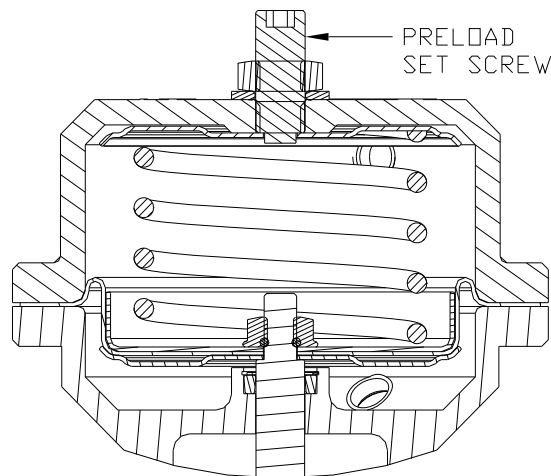

Figure 3:
- To increase spring preload (boost pressure) by a small amount, loosen the set screw nut, and then “dial in” the preload set screw by 2 or 3 rotations (refer to Figure 3). **CAUTION:** When increasing boost, adjust in small enough increments to avoid excessive boost and possible detonation (for reference, 2 or 3 inward rotations of the preload set screw = approximately 1psi increase in boost).
- To decrease spring preload (boost pressure) by a small amount, loosen the set screw nut, and then “dial out” the preload set screw by 2 or 3 rotations (refer to Figure 3).